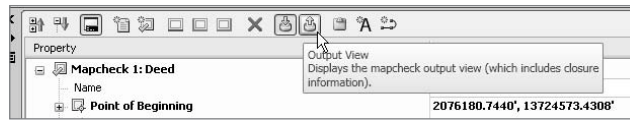

Figure A.8
9. Click the Output View button on the Mapcheck Analysis palette, as shown in Figure A.8.